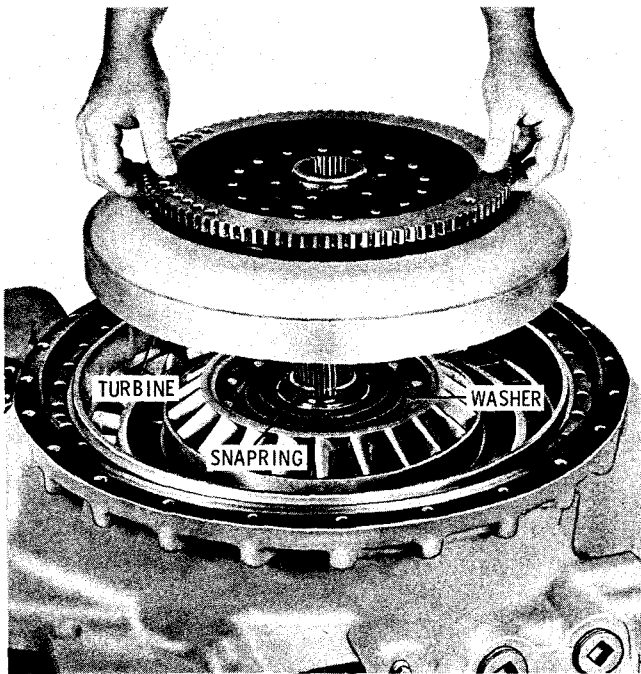
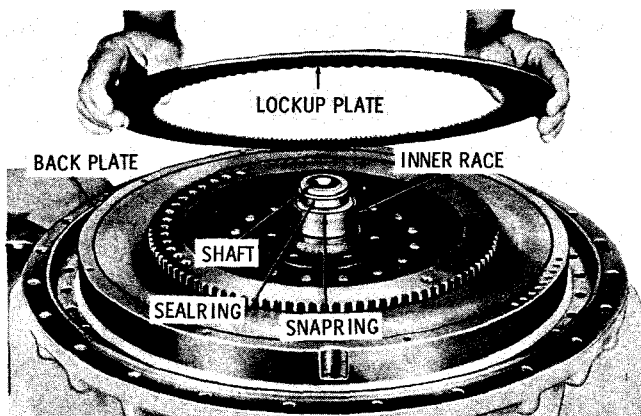

Fig. 7-84. Installing torque converter turbine (CLT, CLBT, VCLT, VCLBT)
Fig. 7-85. Installing lockup clutch plate (CLT, CLBT, VCLT, VCLBT)
(5) On models having a lockup clutch, install the torque converter turbine (fig. 7-84). Make sure that either the internal snapping is in the turbine hub or, in earlier models, an external snapping is in place on the turbine output shaft. Continue assembly through (12), below.
(6) Install bearing spacer 3 (A, foldout 6) only when snapping (4) is installed in the hub of turbine 6.
(7) Install the roller bearing inner race (fig. 7-85). Install the snapping to retain the race. Install the step-joint (or hook-type) sealing onto the turbine output shaft.
(8) Install the lockup clutch back plate, flat side upward, onto the torque converter pump (fig. 7-85). Install the lockup clutch plate.